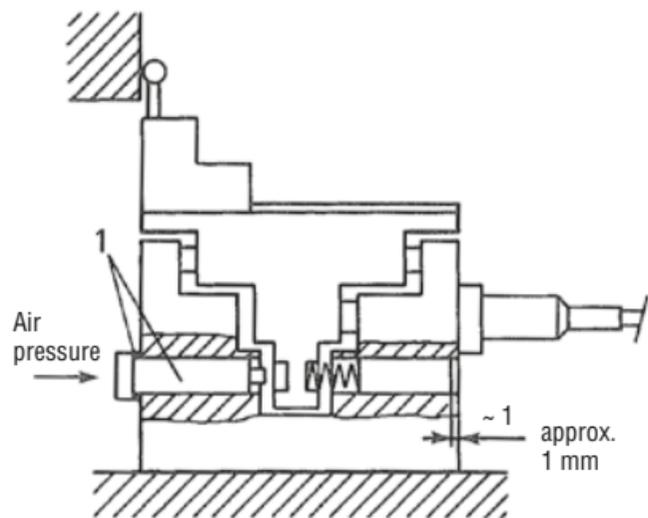

Fig. 3.
As shown in Figure 3.
When set up as in Figure 3
1. Set up the retraction system as shown in Fig. 3 (the head of the screw with the spring should be about 1 mm away from the surface of the probe).